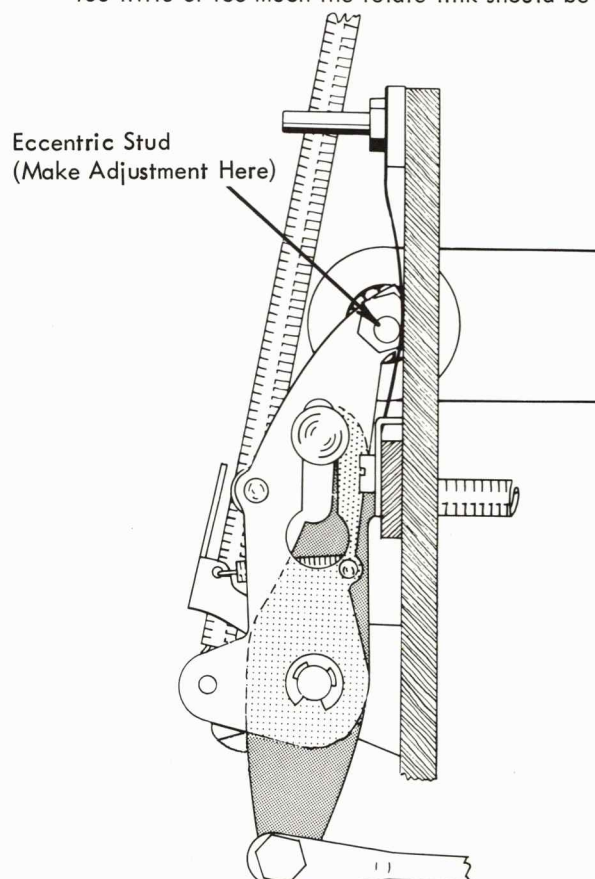
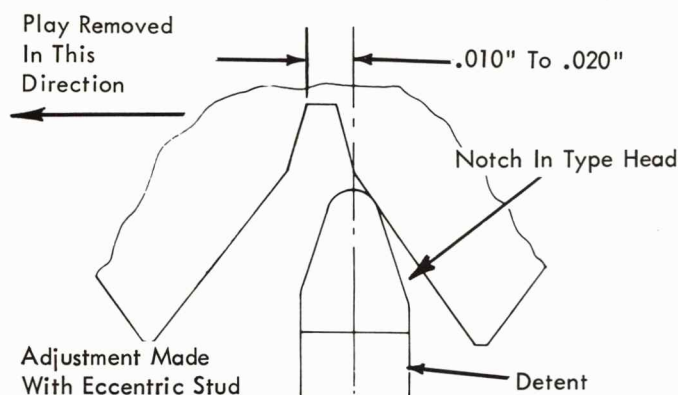

FIGURE 80. Eccentric Stud
FIGURE 81. Final Typehead Homing
- c. Half-cycle an upper case -5 character and adjust the eccentric stud (Fig. 80) in against the machine sideframe until the -5 character detents .010" to .020" in the negative direction from the center of the detent notch when the head play is lightly removed in the negative direction (Fig. 81). Make sure that the damper spring is fully collapsed against the machine sideframe.